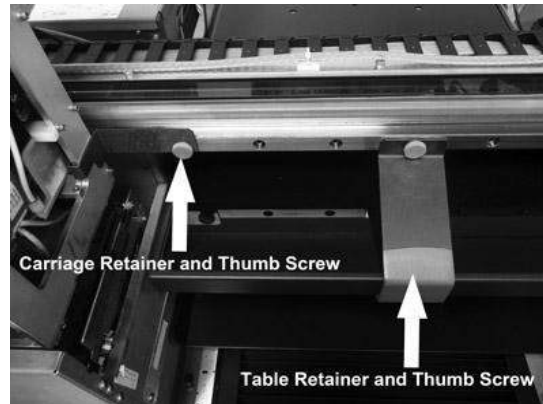

Figure 7.9: It is important to place the Table and Carriage Retainer before Transport.
- Install the Carriage and Table Retainers that were with the printer when it arrived. Use the Thumb Screw to tighten the table retainers. (see figure 7.9)